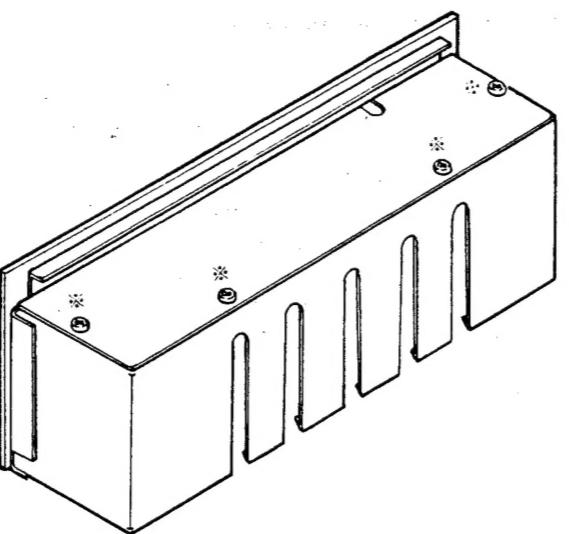

Fig. 2-1. Removal of Shield Plate
- c. Remove the four Phillips-Head screws (+RF3 ϕ x 6) that secure the shield plate. See Fig. 2-1.